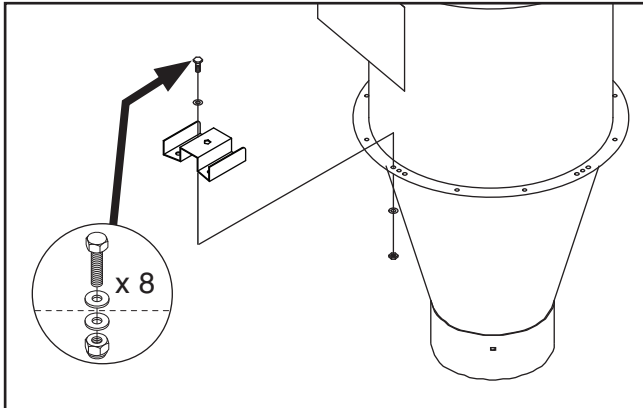

Figure 16. Cyclone mounting bracket mounted to collector assembly.
13. Install (4) cyclone mounting brackets with (8) $\frac{3}{8}$ "-16 x $1\frac{1}{4}$ " hex bolts, (16) $\frac{3}{8}$ " flat washers, and (8) $\frac{3}{8}$ "-16 lock nuts (see **Figure 16**).